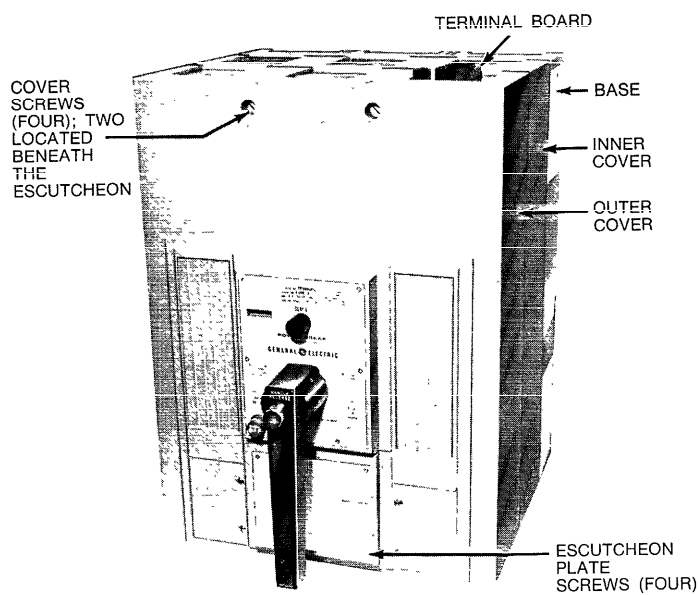

Fig. 1. Front view of Power Break® circuit breaker.
1. Loosen four screws, shown in Fig. 1, and remove the escutcheon plate.
- d. Replace and secure the cover escutcheon. See Fig. 1.